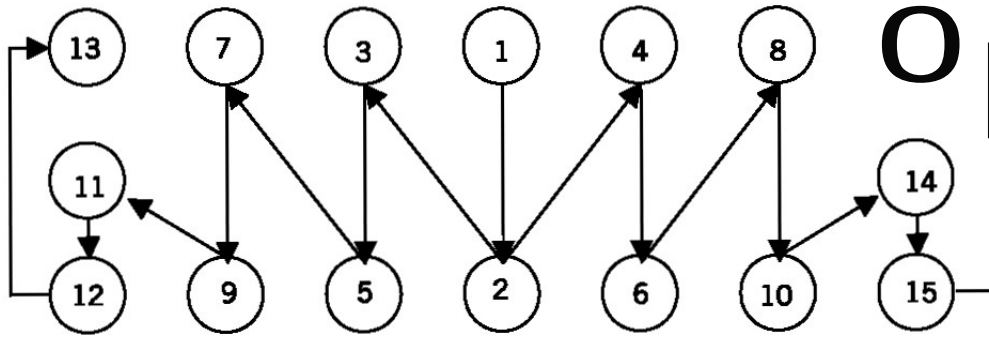

Figure 1-Torque Pattern
- B. Tighten all nuts per Figure 1 - Torque Pattern, to 35 ft-lb torque. After the initial torque has been applied re-torque them to 50 ft-lb, again using the pattern shown in Figure 1.
Re-torque nuts to 50 ft-lb per Figure 1 - Torque Pattern.